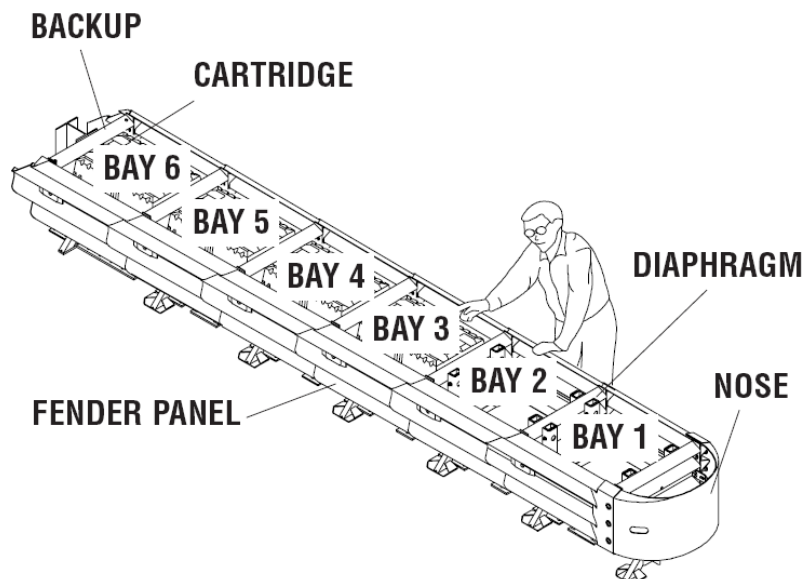

Figure 4
One bay consists of one Diaphragm, two Fender Panels, etc. The Nose Assembly is not considered a Bay. There are no Cartridges in the front two (2) bays of the system; therefore, there will be two (2) more bays than the number of Cartridges for the system. To determine number of Bays, count Fender Panels on one side (Figure 4).